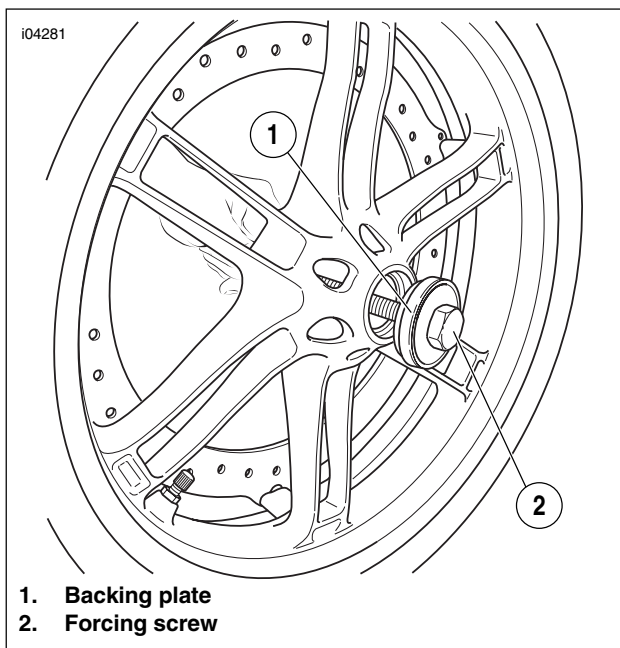

Figure 2-12. Install the Backing Plate (B-43993-11) and Forcing Screw
1. See Figure 2-12. Install the Backing Plate (Part No. B-43993-11) onto the long forcing screw from the Wheel Bearing Installer/Remover (Part No. HD-44060), with the smaller diameter toward the wheel hub. Insert the forcing screw and backing plate into the wheel hub.